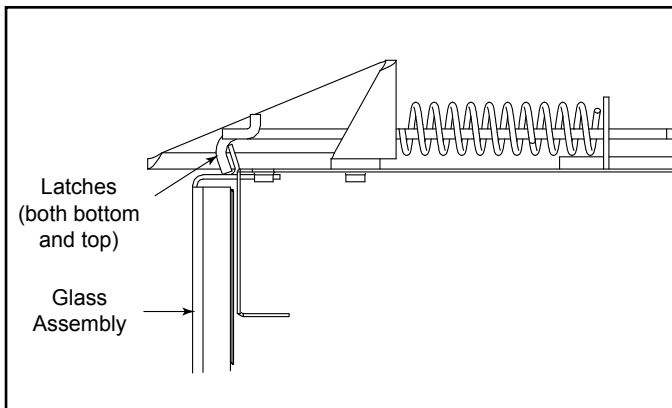

Figure 12.1 Fixed Glass Assembly
- Pull the four (two upper and two lower) glass assembly latches out of the groove on the glass frame. Refer to Figure 12.1.